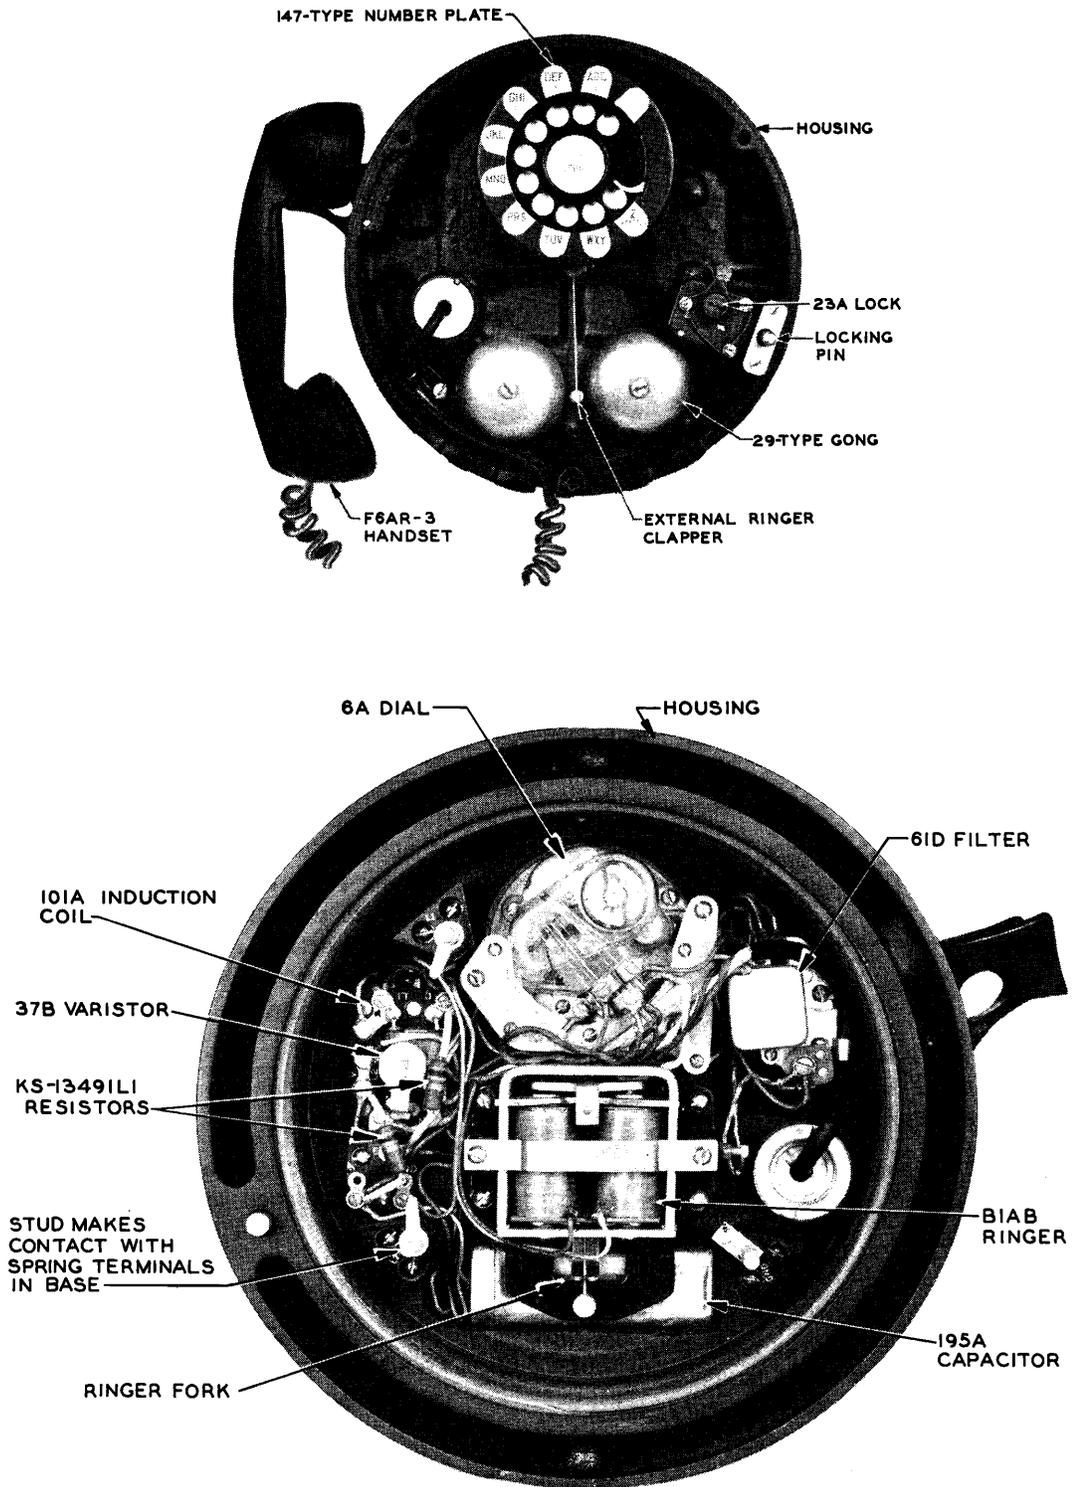

Fig. 5 — Interior and Front View of 9B Apparatus Unit
**2.03** The housing, which screws onto the base, contains the usual telephone apparatus (see Fig. 5). In addition, two 1-megohm resistors KS-13491, List 1 are provided, one across each capacitor to discharge the circuit before the housing is removed. Three projecting studs located on the back of the housing make contact with the three spring terminals in the base, thus carrying line and ground connections into the housing. The housing is equipped with a 23A lock and two keys; the same key fits all locks. Housing cannot be locked in place unless the locking pin is engaged in the locking hole in base of set.